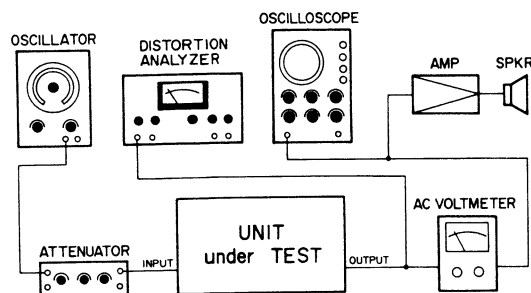

Fig. 2-19. Distortion Measurement Set-Up
1. Connect test equipment as shown in Fig. 2-19.